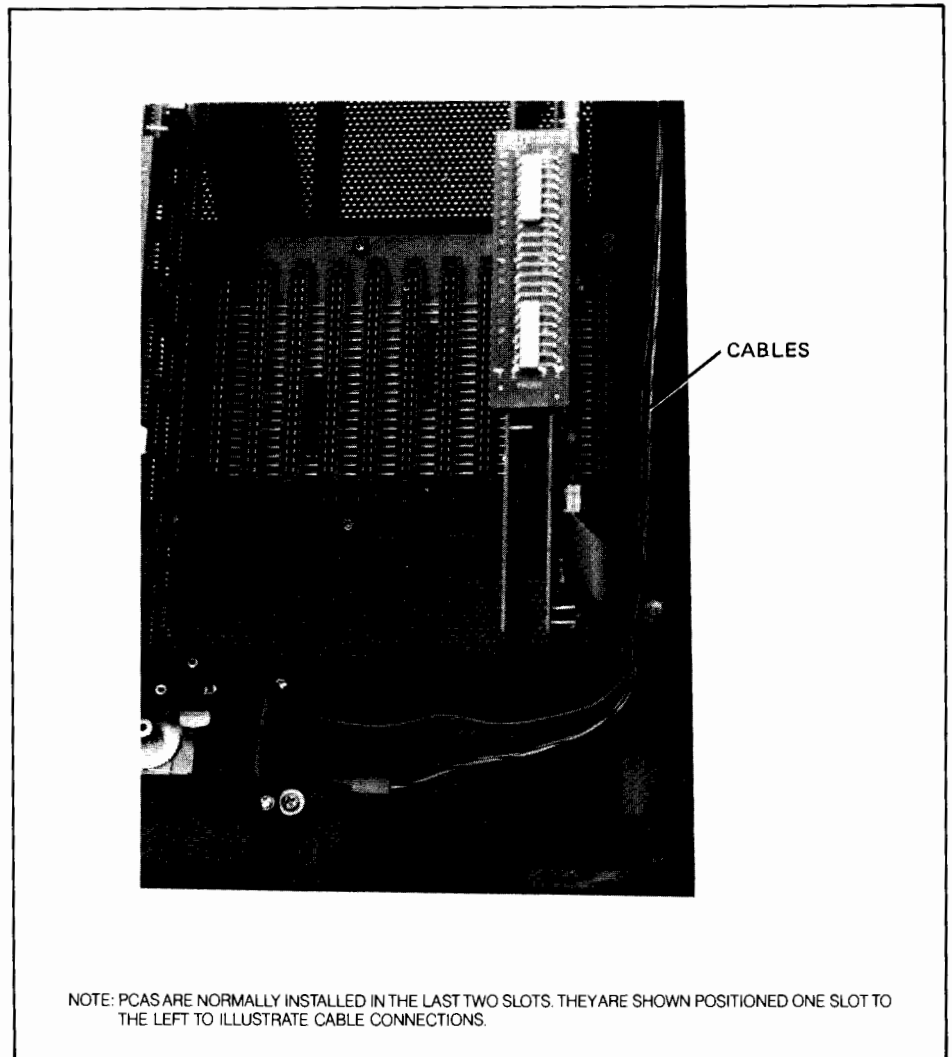

Figure 2-24. Cable Routing
The CTU Transport Assemblies are identical. Either assembly can be used for the following procedure. When installing the CTU Transport Assemblies, ensure that all cables are routed under and to the right of the assemblies along the bottom of the mainframe shell as shown in figure 2-24.
13. Route UNIT 0 cabling as shown in figure 2-24. Ensure that cables do not interfere with free movement of CTU Transport Assembly motor when a cartridge is inserted or ejected.